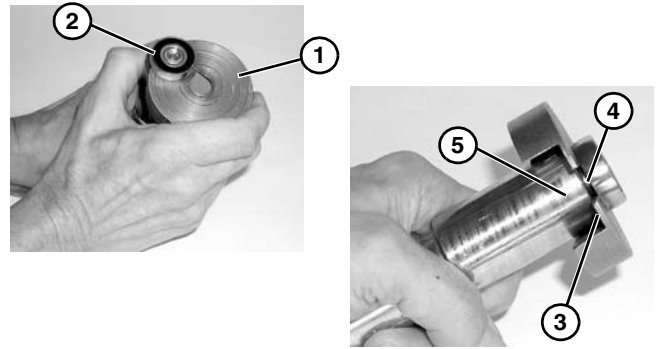

Figure 56
1. Place bearing removal tool (**Figure 56, item 1**) below bearing (**Figure 56, item 2**) with lip (**Figure 56, item 3**) located in gap (**Figure 56, item 4**) between bearing and spindle hub (**Figure 56, item 5**) as shown.